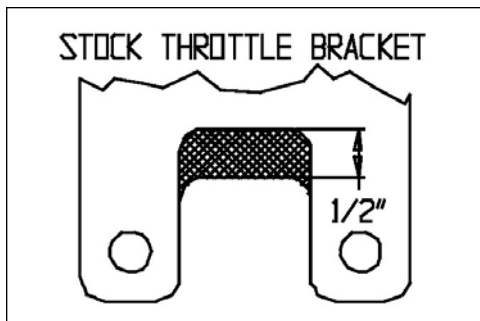

Figure 1
- **THROTTLE BRACKETS:** Due to the design of Performer manifolds, the throttle and kickdown bracket on some vehicles may require modification to fit. See **Figure 1** for guidelines or purchase our #8031, 8030 or 8036 throttle, cruise, and kickdown linkage brackets for pre-1995 cylinder heads. On Vortec or E-Tec cylinder head applications, purchase throttle bracket #8032